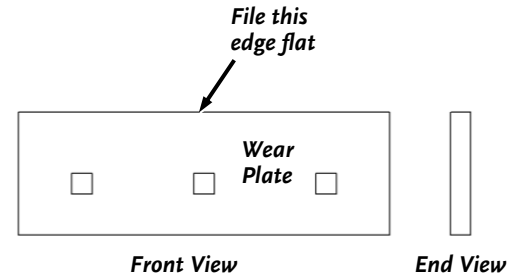

Figure 47
2. File the edge of the Wear Plate to take out any nicks and to square rounded edges (**Figure 47**).